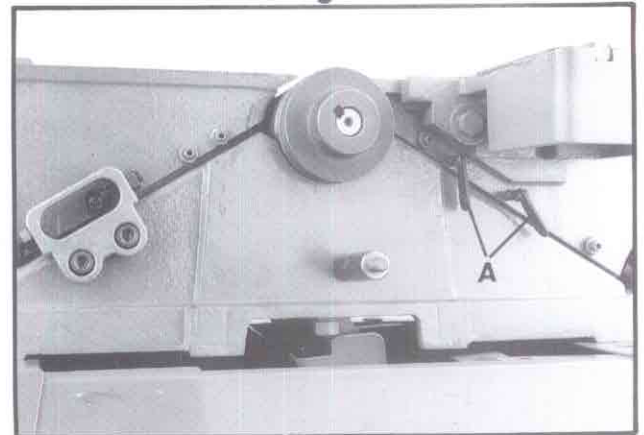

Fig. 18
3. Loosen table lock screws (A, Fig. 18) and raise the outfeed table to the height of blade number one by turning the hand wheel. Counter-clockwise will cause the outfeed table to raise. Clockwise will cause the outfeed table to lower.